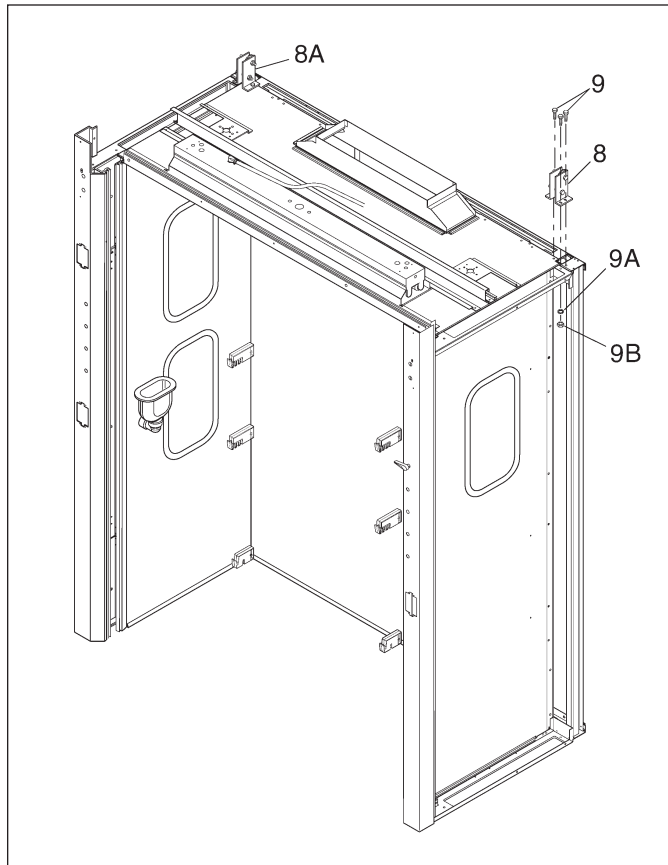

**Figure 12**
**(B) Fume Hood Assembly – continued**
6. If the baffle support brackets (4) have not been factory installed, attach all of the baffle support brackets to the back panel. Insert two No. 8 x 3/4" pan head thread cutting screws from the rear of the back panel (1) into each support bracket.
*Refer to Figure 12*